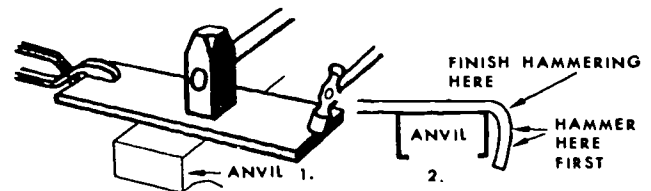

Figure 6-5. Square bending.
**Bending.** Square and angle bends are formed over an edge of the anvil face, as shown in figure 6-5. A helper holds the metal down with a heavy sledge. Note that you start the bend at the end of the piece and not at the point of bend. The bend may be finished square inside or outside or rounded. If you need an inside radius, bend the metal over a rounded corner of the anvil. An angle bend is stronger if the area to be bent is enlarged by upsetting. To upset the rod or bar, heat it at the point of bend and, holding it vertically by one end, strike the other end against the floor. Then bend the